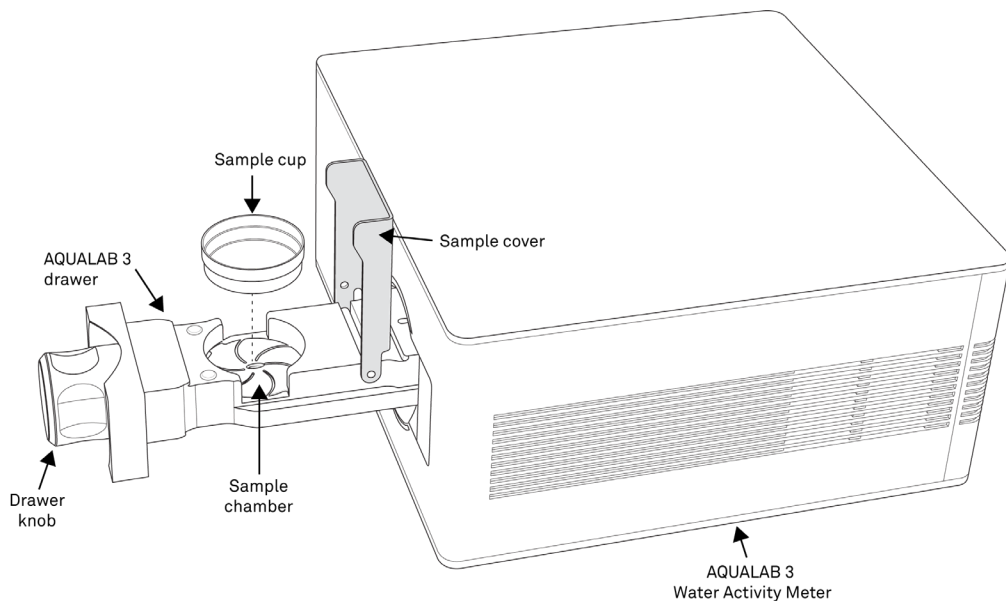

Figure 54 AQUALAB 3 Drawer Pulled Out
9. Insert the sample cup into the AQUALAB 3 sample chamber (Figure 54):